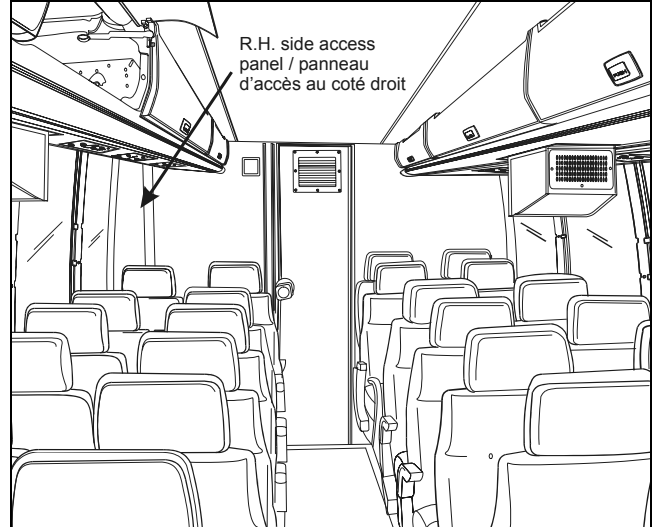
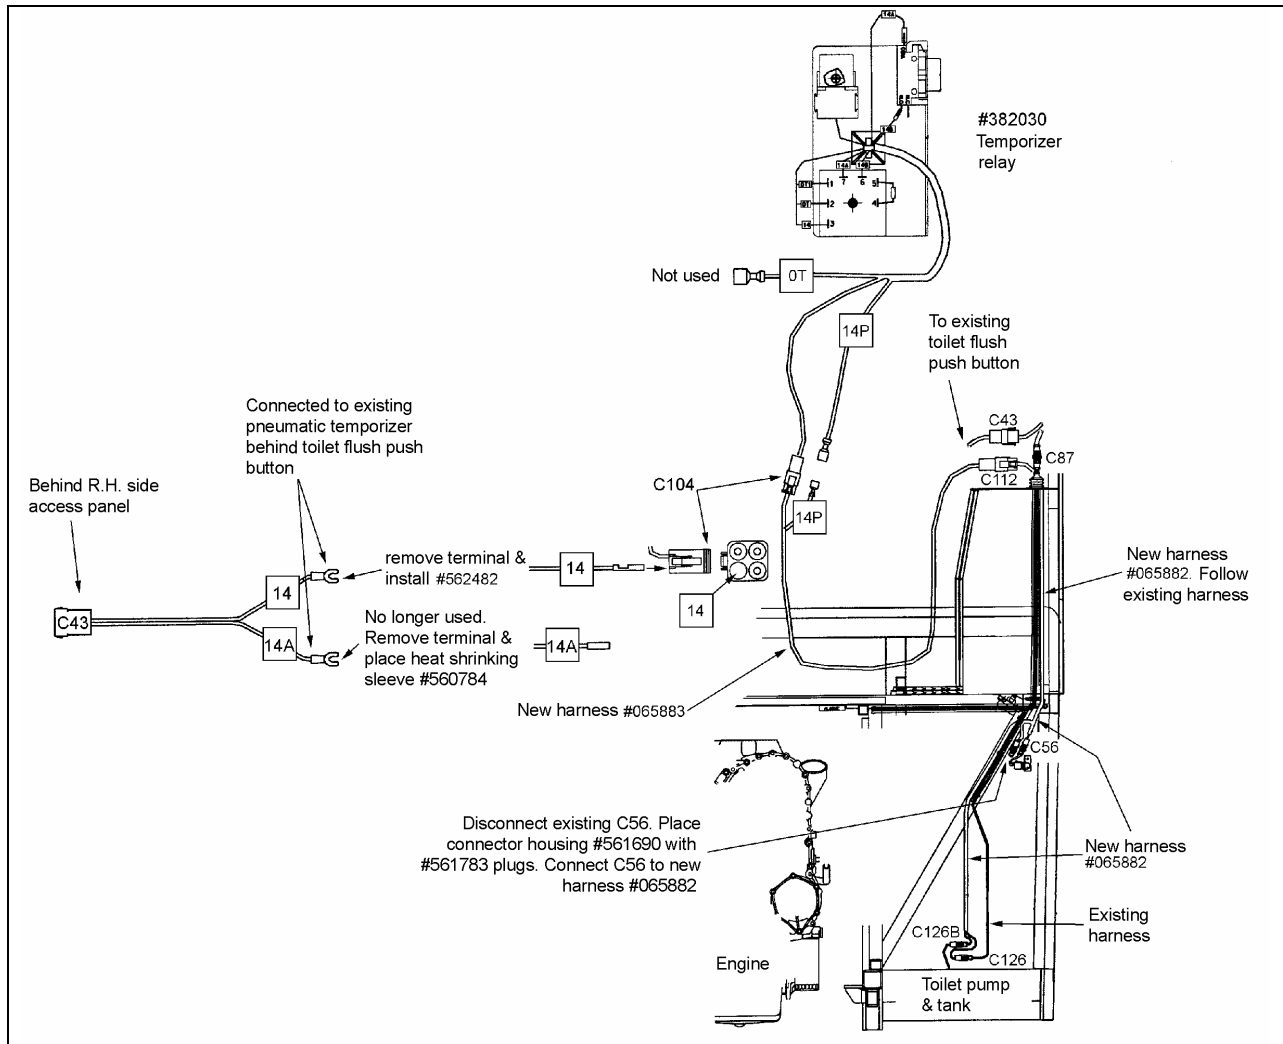

FIGURE 2 : R.H. SIDE ACCESS PANEL H3 SERIES
FIGURE 10 : H3 SERIES, WITH 2 TOILET FLUSH PUSH BUTTONS – R.H. SIDE OF ENGINE COMPARTMENT, SEEN FROM THE REAR.
H3 series with two toilet flush push buttons (figure 10)
8. Open the R.H. side access panel (figure 2). Route harness #065882 up to the engine compartment. In the engine compartment, over the septic tank, unplug connector C126 and plug to connector C126 & C126B of harness #065882. Unplug engine compartment toilet flush push button connector C56 and plug to C56 from new harness #065882. Place the connector housing #561690 with two #561783 plugs on the remaining C56 connector as shown in figure 10.
10. Located wire 14 & 14A and remove the terminals. Insulate wire 14A using the heat shrinking sleeve. Install terminal #562482 on wire 14 and insert into housing of connector C104 of harness #065883. Connect the wires as shown in figure 10.